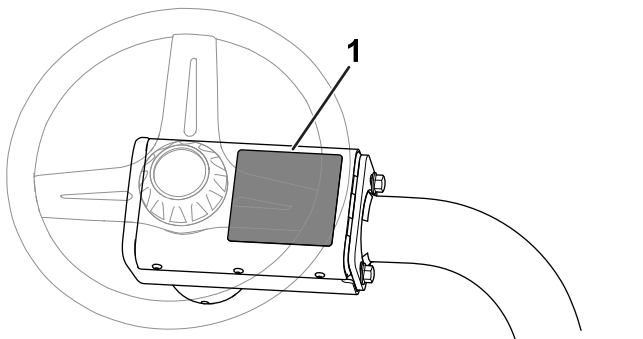

Figure 9
- Apply the CE warning decal (Part No. 136-8505) over the existing warning decal (Part No. 136-8506). Figure 9 shows the warning decal location.